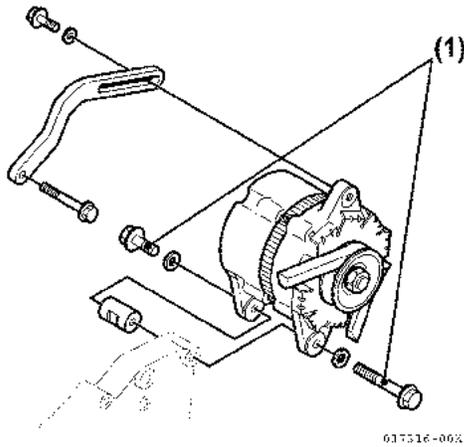

Figure 11-9
7. Remove two bolts (Figure 11-9, (1)) and remove the alternator from engine.